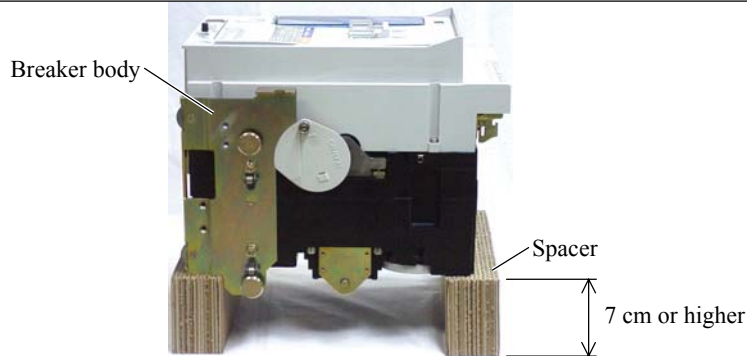

Fig. 75 Laying the breaker body on spacers
- 2) Carefully lay the breaker body on spacers with the backside down as shown in Fig. 75. The spacers must be at least 7-cm high to prevent deformation of protrusions on the breaker body backside, and have the size and strength that allow the breaker body to be safely laid on them. Take care to keep the main circuit contacts clean of dust.